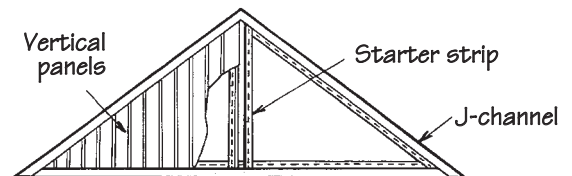
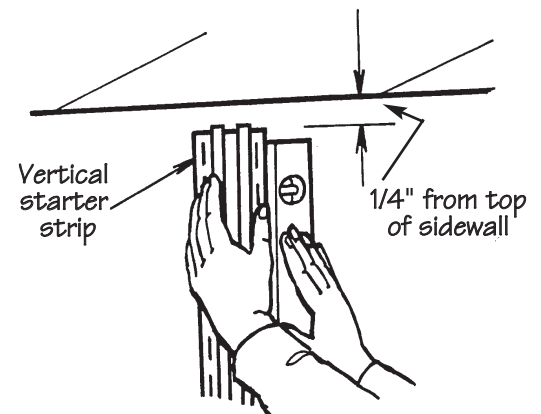

Figure 61.
Figure 62.
- Find the center of the gabled wall and use a level or plumbline to attach either a vertical siding starter strip or two back-to-back regular starter strips, centered with the peak of the gable (Fig. 61). Leave a 1/4" gap at the top and the bottom (Figure 62). This area should be flashed prior to installing the starter strips.